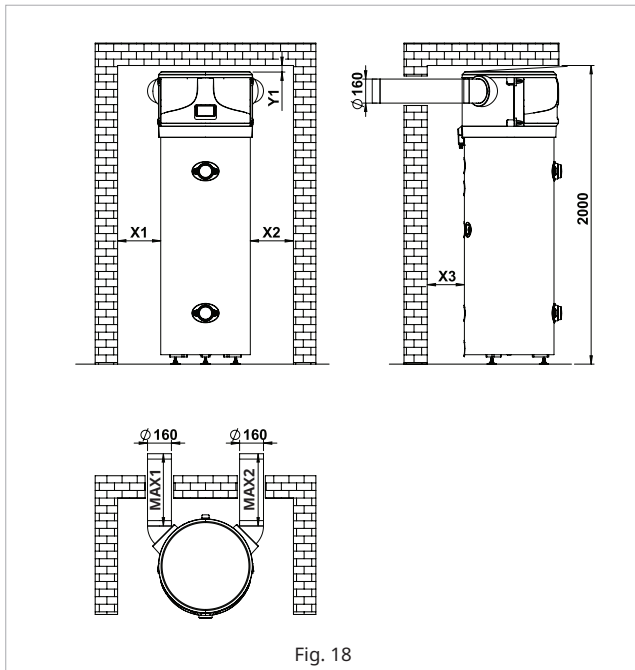

Fig. 18
The installation of the device must be carried out in a suitable place in order to allow the normal use and adjustment operations, together with ordinary and extraordinary maintenance to be performed, as well as to be away from combustible surfaces. Therefore, it is important to allow the necessary working space by referring to the dimensions, shown in Fig. 18.
It is necessary to create a dedicated air duct as indicated in the illustration (Fig. 18, 19, 20).
5.3.1 Ducted installation (Fig.18)